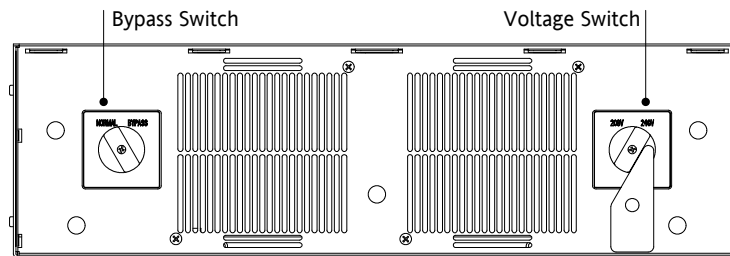

Figure 7. PDM (with Front Panel Removed)
3. Verify that the Bypass switch on the PDM is in the NORMAL position (see Figure 7).
4. **Changing the PDM output voltage.** When the PDM voltage switch is set to the 240V position (the default), the output voltage is 240V/120V. When set to the 208V position, the output voltage is 208V/120V. See Table 1 for a complete list of PDM input/output voltage settings. Figure 7 shows the voltage switch.